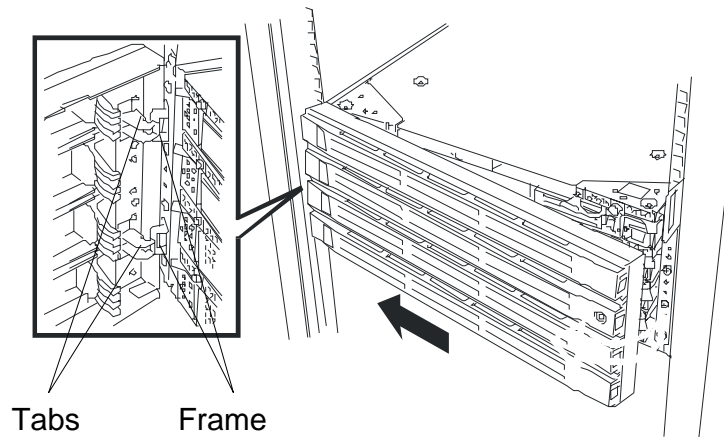

Figure 2-5. Opening the Front Bezel (Rack-mount Model)
3. Detach the bezel from the main unit by sliding it to the left a little to disengage the tabs from the frame. See Figure 2-5.